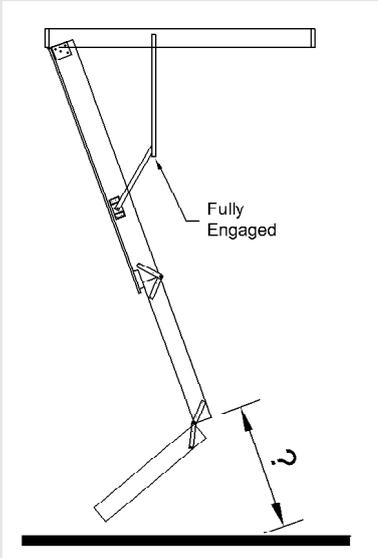

fig 15
11. With the top and middle sections of the stair open and the bottom section tucked in behind, measure the distance from the bottom of the middle section, to the floor at the same angle as the stairs (figure 15). Do this on both sides.